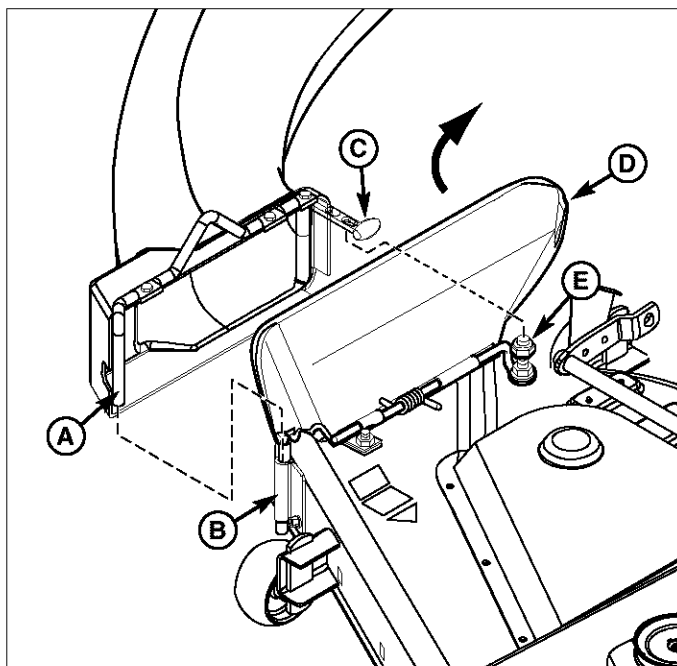

**Figure 7. Assemble Bagger Tubes**
1. Attach upper tube (B, Figure 7) to middle tube (A) using clevis pins (E) as shown. Secure with washers (D) and hair pins (C).
2. Reach through upper tube (B) to insert clevis pins (E).